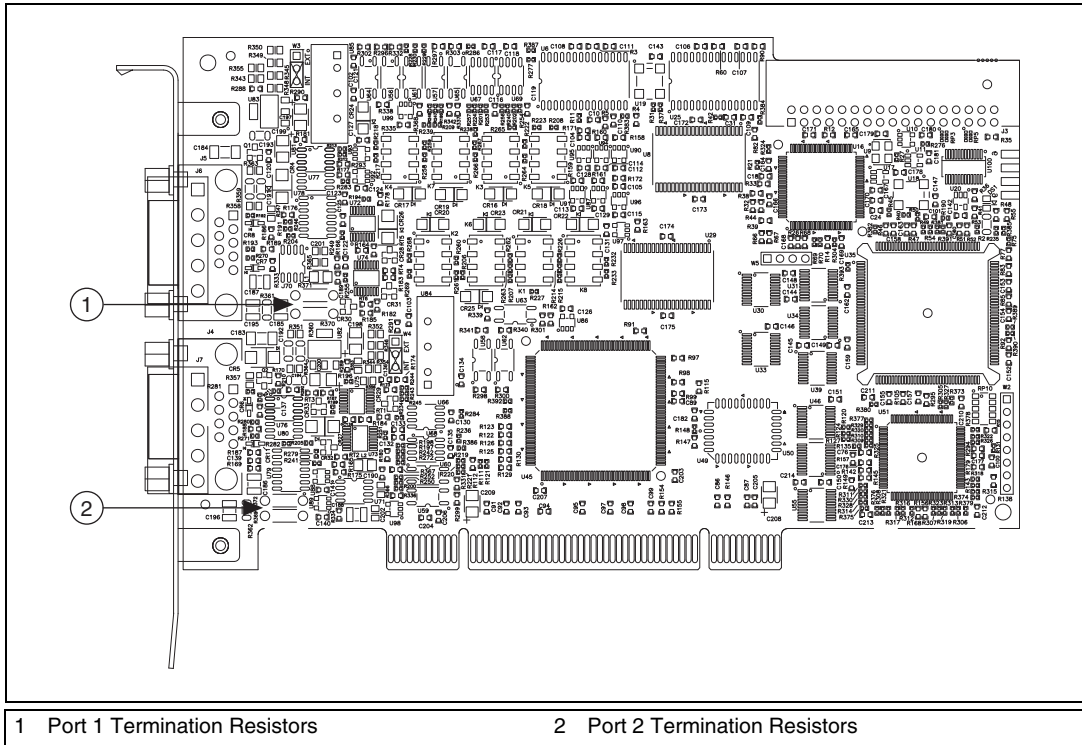

Figure 4-8. Location of Termination Resistors on PCI-CAN/LS2 Card
1. Remove the termination resistors on the low-speed CAN card. Figure 4-8, Location of Termination Resistors on PCI-CAN/LS2 Card, shows the location of the termination resistor sockets on a PCI-CAN/LS2 card.